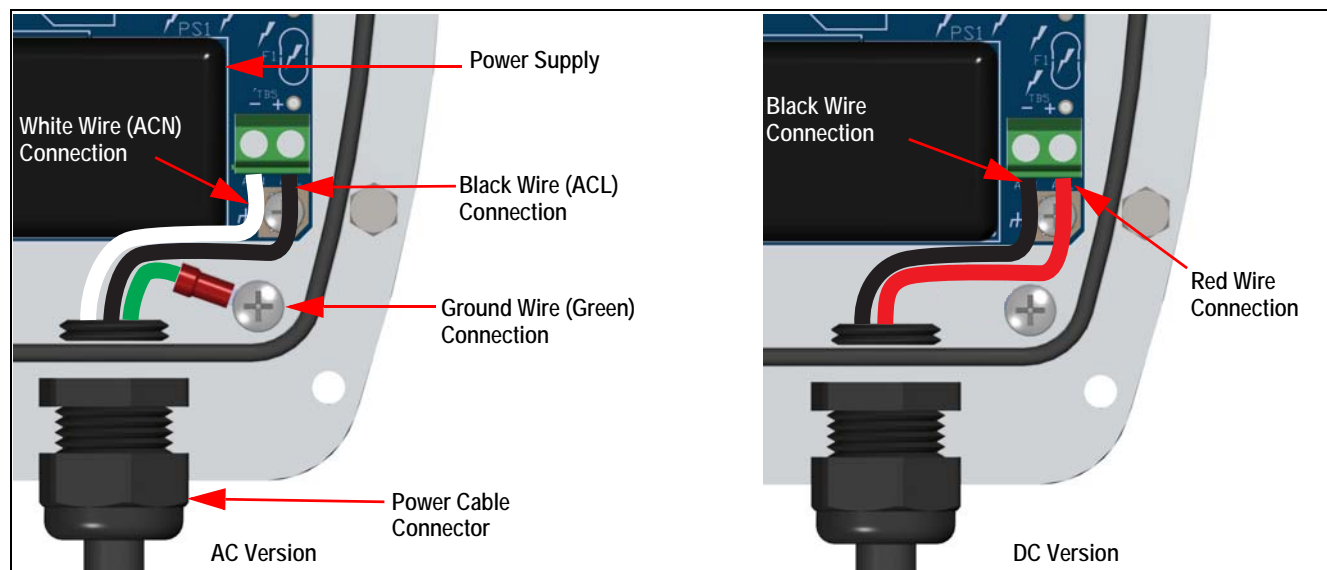

Figure 3-6. Power Supply
5. Push new cable through the cable connector and reconnect wiring as shown in Figure 3-6.